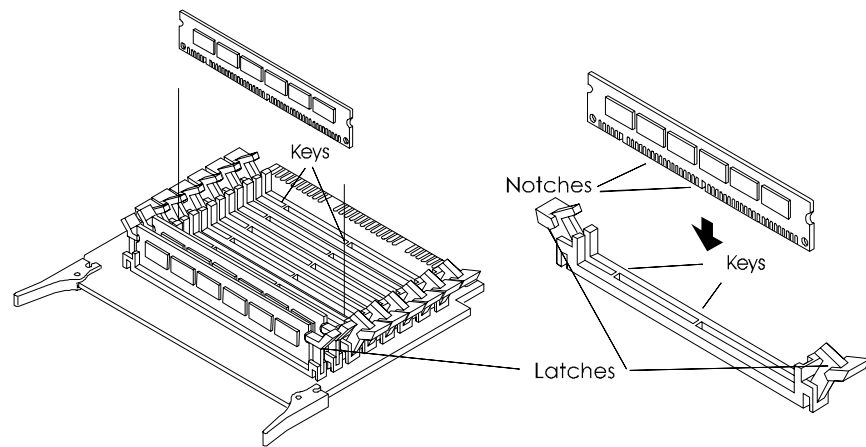

Figure 5-4. Inserting DIMM Into Memory Board
5. At your work station make sure you are protected from static electricity. Install the DIMMs (see Figure 5-4):
6. At your work station make sure you are protected from static electricity, install the DIMMs (see Figure 5-4):